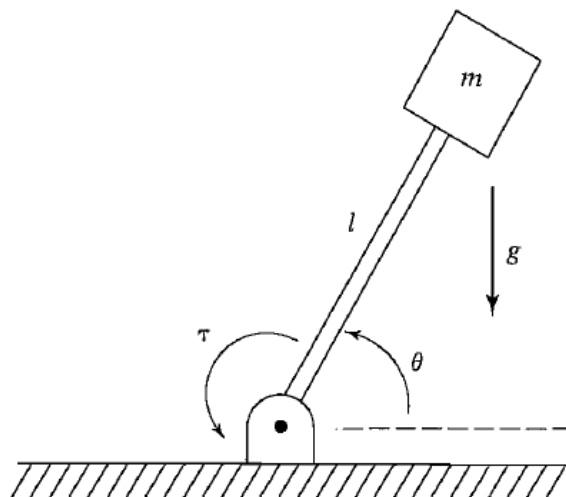

Figure.Q4B.
- 4B.** Consider the single-link manipulator shown in Figure Q4B. It has one rotational joint. The mass is considered to be located at a point at the distal end of the link, and so the moment of inertia is ml^2 . There is Coulomb and viscous friction acting at the joint, and there is a load due to gravity. Illustrate the control law based on partitioning. **05**